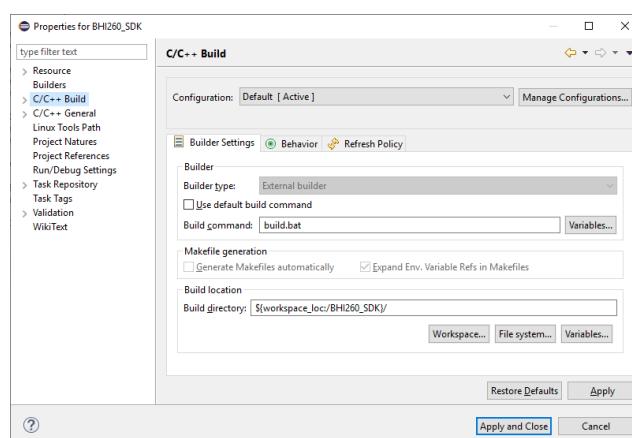

Figure 9 Project Properties Builder Settings
- In ARC GNU IDE click “BHI260_SDK” on top left and then click menu “Project -> Properties”. Click “C/C++ Build” on the left of the popup window and type “build.bat” on the Build command Edit box as shown in Figure 9.